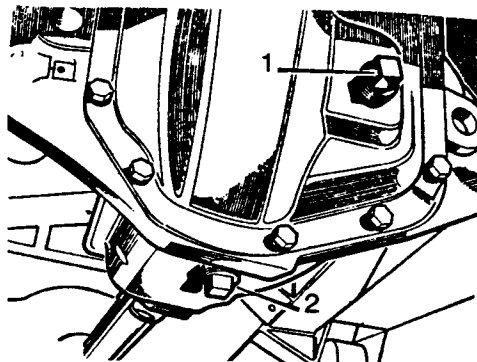

Fig J2.69
- (2) Refer to Fig J2.69. Remove the rear differential filler plug (1).
- (3) Remove the rear differential drain plug (2) and allow the oil to drain into the container.
- (4) Replace and tighten the drain plug using a new gasket.
- (5) Fill the differential with oil through the filler hole until the oil level is up to the bottom of the filler hole.
- (6) Allow excess oil to drain from the filler hole.